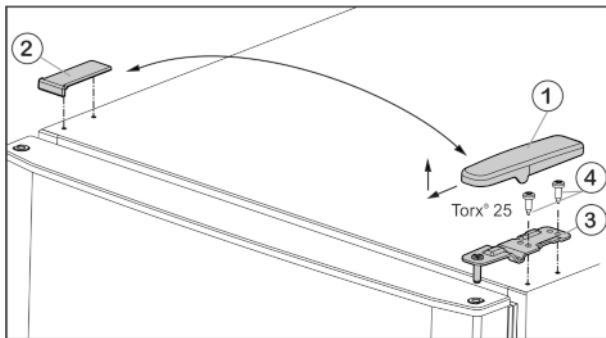

Fig. 5
- ▶ Pull off the cover Fig. 5 (1) forwards and upwards.
- ▶ Lift off the cover Fig. 5 (2).
- ▶ Unscrew the upper turn hinge Fig. 5 (3) (2x Torx® 25) Fig. 5 (4) and lift it off.
- ▶ Insert the upper turn hinge *Fig. 5 (3)* in the door on the new hinge side.
- ▶ Screw in the upper bearing block **tightly (with 4 Nm)** (2 x Torx® 25) *Fig. 5 (4)*. Use a cordless screwdriver if necessary.
- ▶ Fit the cover *Fig. 5 (1)* on the opposite side by sliding it rearwards and latching it into place.
- ▶ Press the cover *Fig. 5 (2)* on the opposite side down into place until it latches.